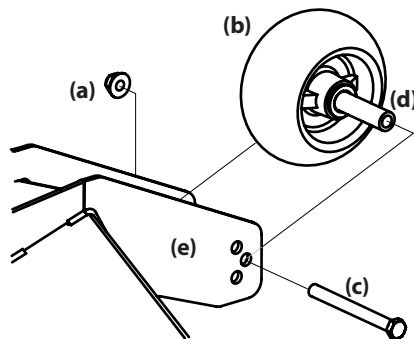

Figure 28
- Remove the lock nut (a) securing one of the front gauge wheels (b) to the deck. Remove the front gauge wheel (b), hex screw (c) and spacer (d). See Figure 28.
- Insert the hex screw (c) into one of the three index holes in the front gauge wheel bracket (e) that will give the front gauge wheel (b) a 1/4-1/2" clearance with the ground. See Figure 28.
- Note the index hole of the just-adjusted front gauge wheel (b), and adjust the other front gauge wheel (b) into the respective index hole of the other front gauge wheel bracket (e). See Figure 28.